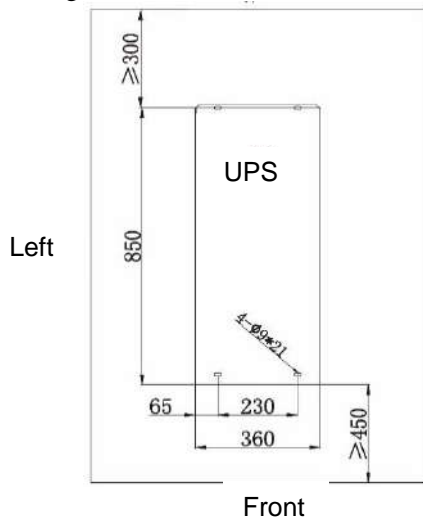
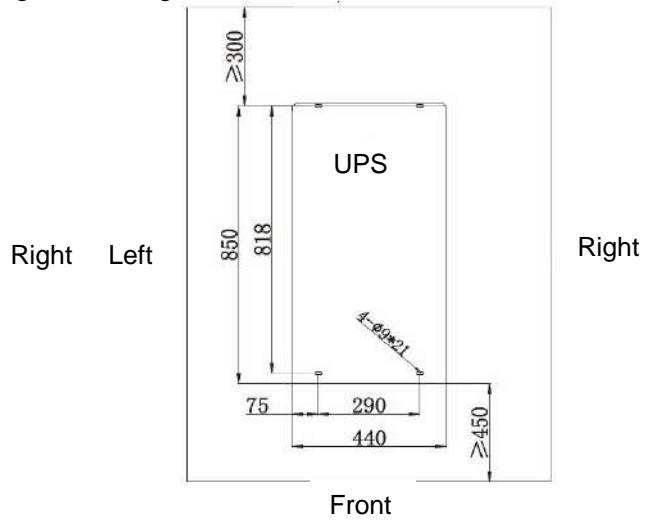

Fig. 3-4 Hole size of 40/60/80 kVA
Fig. 3-5 Hole size of 120 kVA
Step 1: determine the installation position and position the mounting surface according to the hole size diagram. The hole size is shown in Fig. 3-4 and Fig. 3-5.